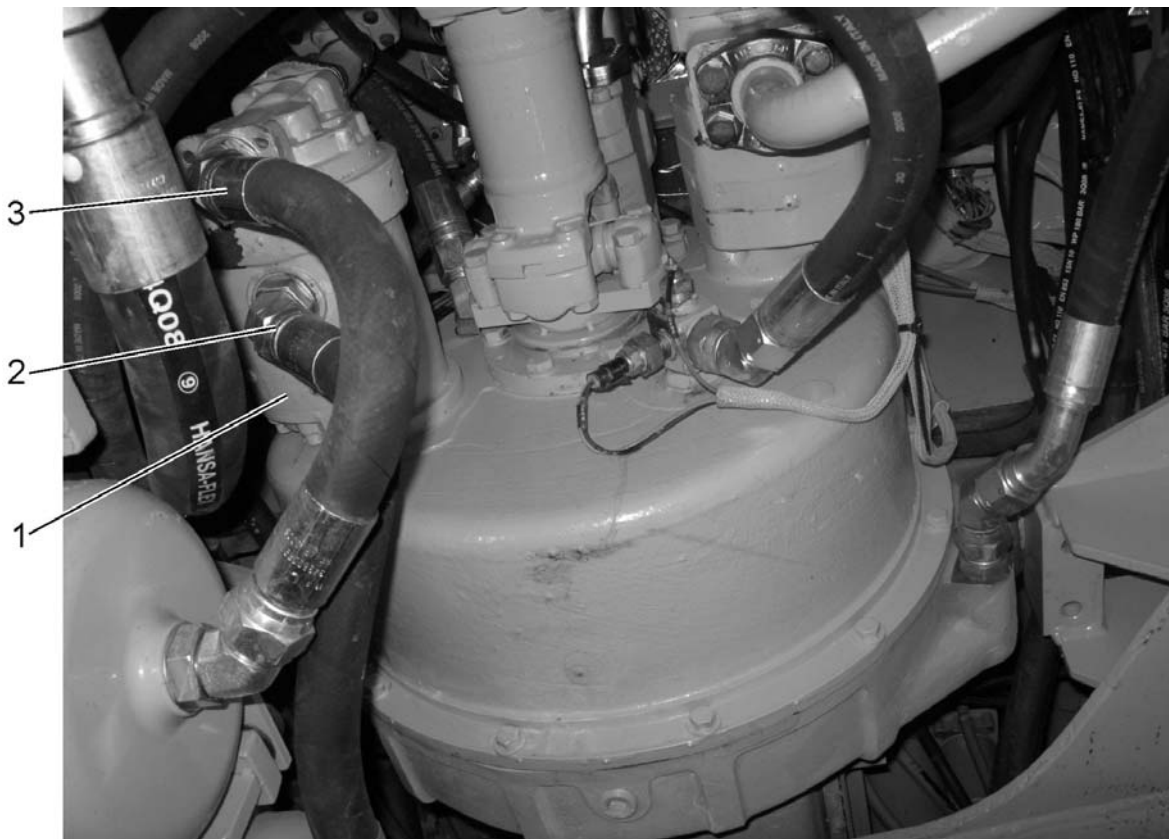

Fig. 7C.24. Charge and Scavenge Pump Disconnect Points (Bottom View)
7. Disconnect the scavenge pump hose (2, Fig. 7C.24) and charge pump hose (3) from the bottom of charge and scavenge pump (1).
8. Take up the slack in the hoist of pump and unscrew two mounting bolts (5, Fig. 7C.23). Pull the pump free of the torque converter and get it out of the machine. When removing the pump, be careful not to lose the splined sleeve between the pump drive shaft and the drive gear inside the torque converter. Remove and discard the pump mounting O-ring.